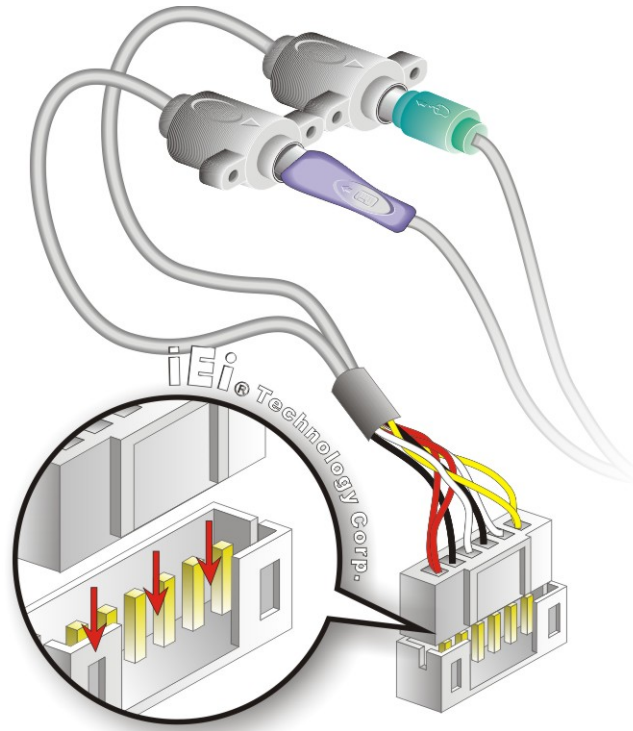

Figure 4-10: Keyboard/mouse Y-cable Connection
- Step 2:** **Align the connectors.** Correctly align pin 1 on the cable connector with pin 1 on the WAFER-945GSE2 keyboard/mouse connector. See **Figure 4-10**.
the keyboard/mouse connector on the WAFER-945GSE2, connect the cable connector to the on-board connectors. See **Figure 4-10**.